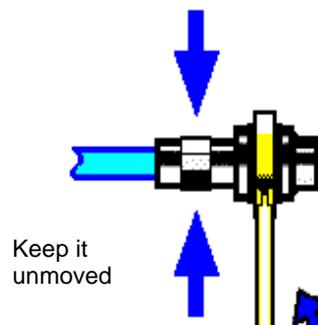

Fig. 3.6 Diagram - Use of Wrench
Step 3. As shown in Fig. 3.6, use a torque wrench to tighten the connectors and finish the connection; the torque wrench shall not exceed the starting break point and an auxiliary wrench can be used to prevent the connector rotating.